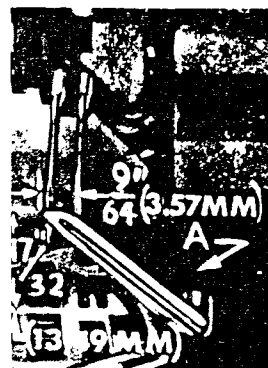

Fig. 10
Next, turn the handwheel until the upper looper is at the left end of its travel. Check dimensions of upper looper point with respect to the RIGHT needle and throat plate (Fig. 10). Looper point should be  $\frac{9}{64}$  inch (3.57 mm) to the left of centerline of RIGHT needle and  $\frac{17}{32}$  inch (13.49 mm) above throat plate (Fig. 10). If resetting is necessary, do it by moving the upper looper holder (A, Fig. 10). NOTE: Figure 10 represents the correct dimensional settings.
If it becomes necessary to move looper thread pull-off (AF), be sure to take up all end play in needle drive shaft before tightening. If upper looper is located so that it is higher over throat plate than recommended in (Fig. 10), the purl will tend to form near the top edge. If upper looper is too low, the purl will form nearer the bottom edge.